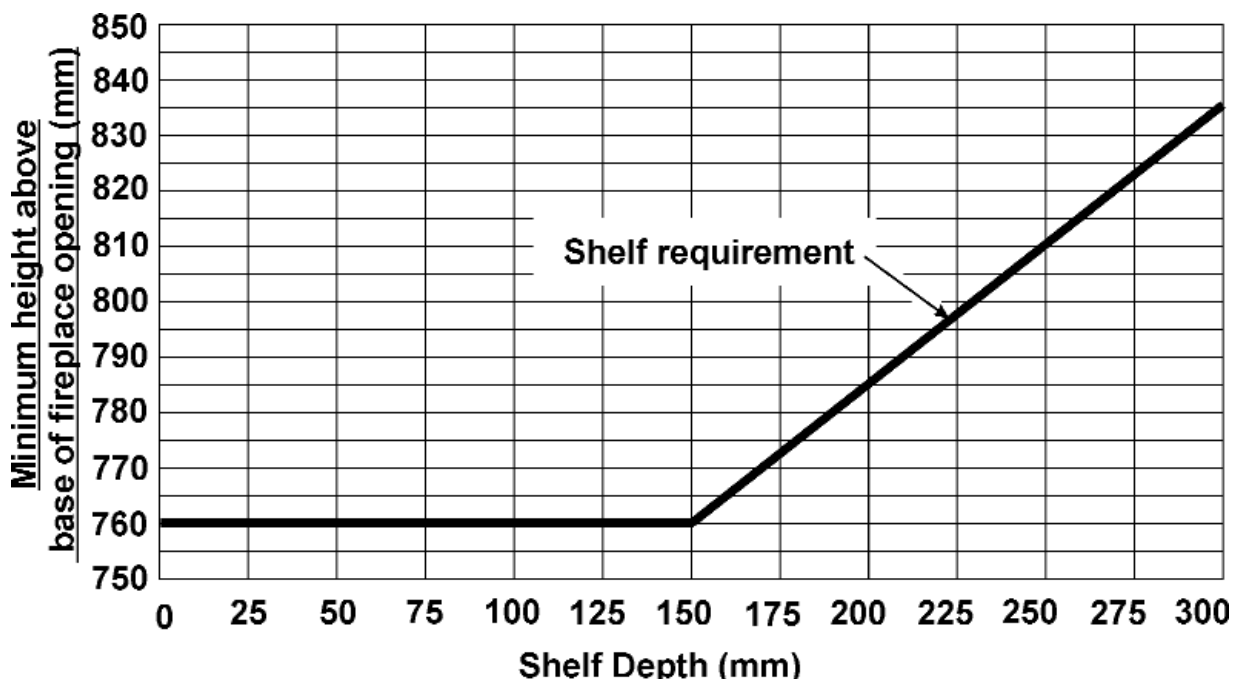

Figure 1. Combustible shelf clearances
**Do** allow a minimum clearance of 760 mm from the top of the base of the convector box to the underside of any shelf whether it is made from combustible or non-combustible materials. For a shelf made from wood or other combustible materials deeper than 150mm add 12.5mm to the clearance for every 25mm of additional shelf depth (See figure 1). Please bear this in mind if ever you add a shelf.